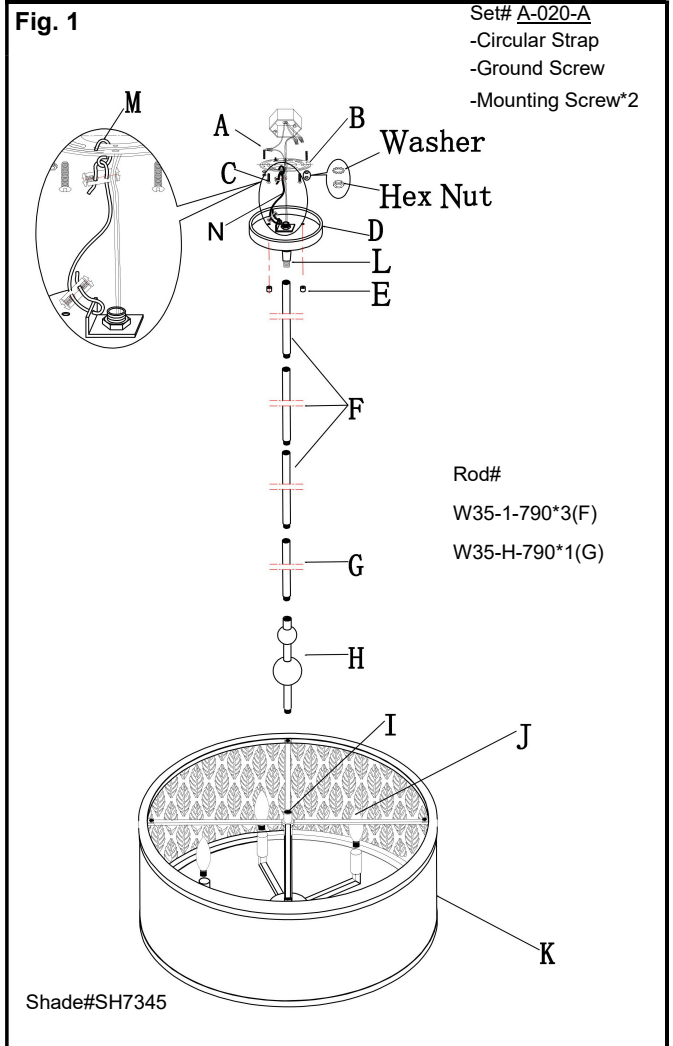

Fig. 2
CONNECTING THE WIRES (Fig. 2)
9. Connect the electrical wires as shown in fig.2, making sure that all wire connectors are secured. If your junction box has a ground wire (green or bare copper), connect the fixture's ground wire to it. Otherwise, connect the fixture's ground wire directly to the circular strap (B) using the green screw provided.